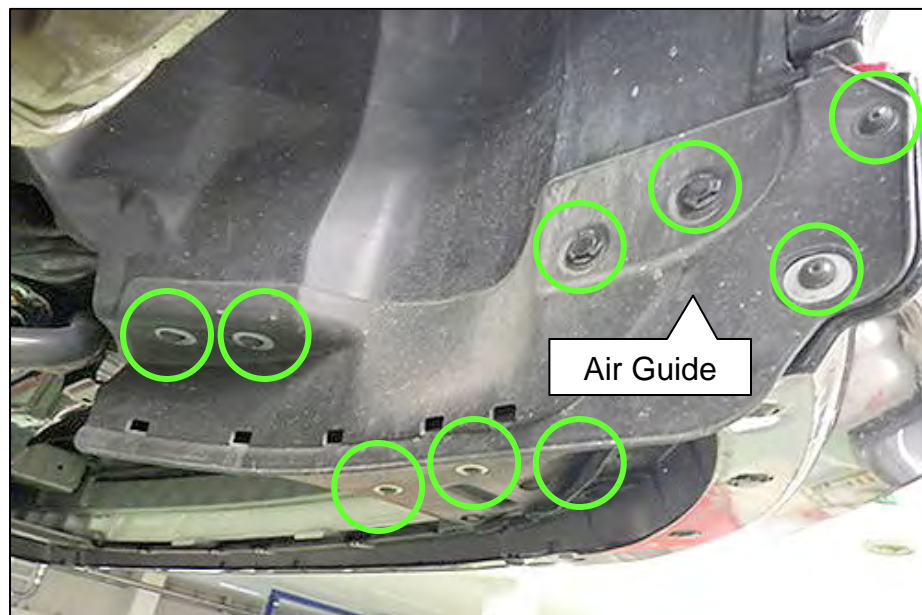

Figure 44
63. Remove the passenger (RH) side Air Guide (Figure 44).
- Seven (7) screws and two (2) clips.